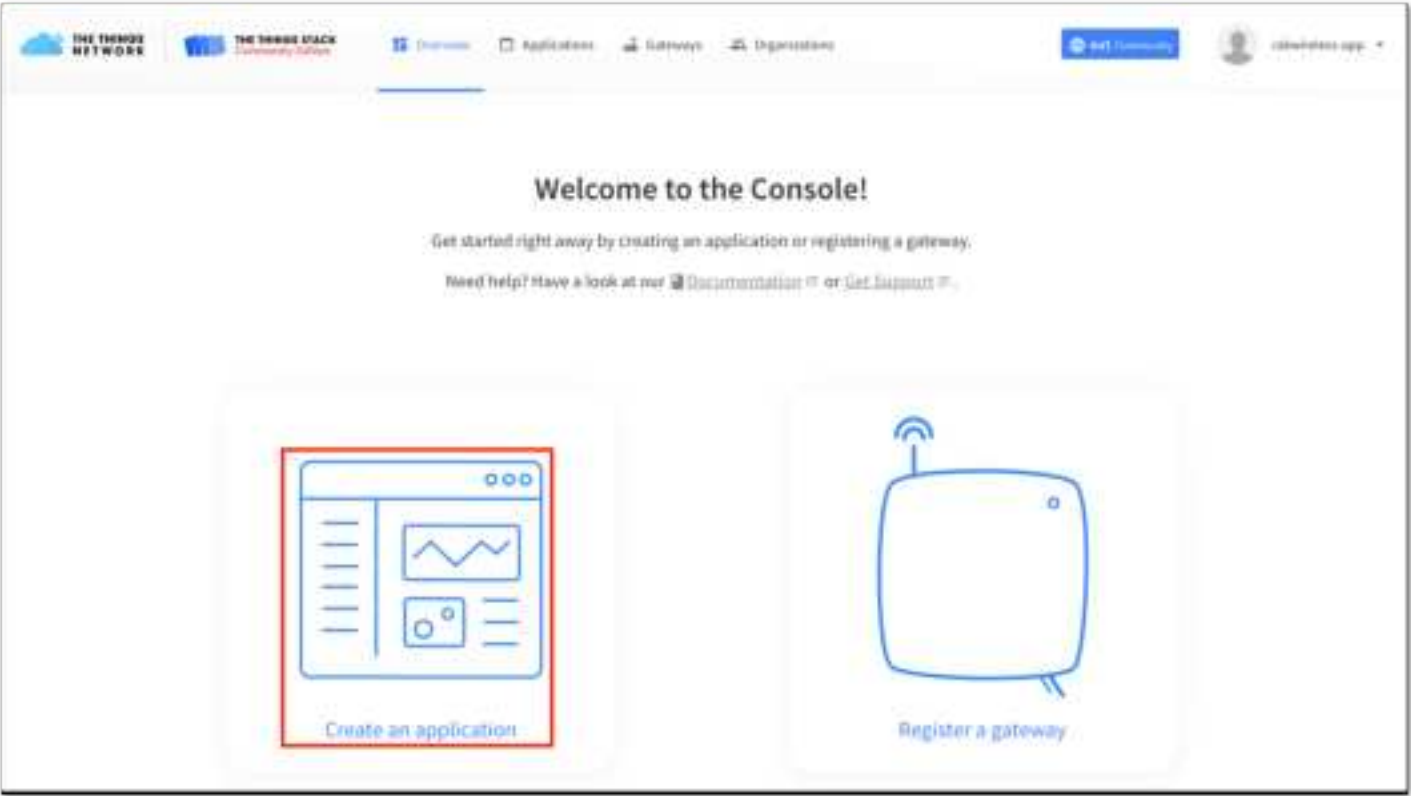

Figure 42: Creating TTN application for your LoRaWAN devices
3. Then you need to put a unique **End device ID** and EUIs (**DevEUI** and **AppEUI**), as shown in **Figure 42**. Check if your module has a DevEUI on the sticker or QR that you can scan then use this as the device unique DevEUI. Optionally, you can add a more descriptive **End device name** and **End device description** about your device.